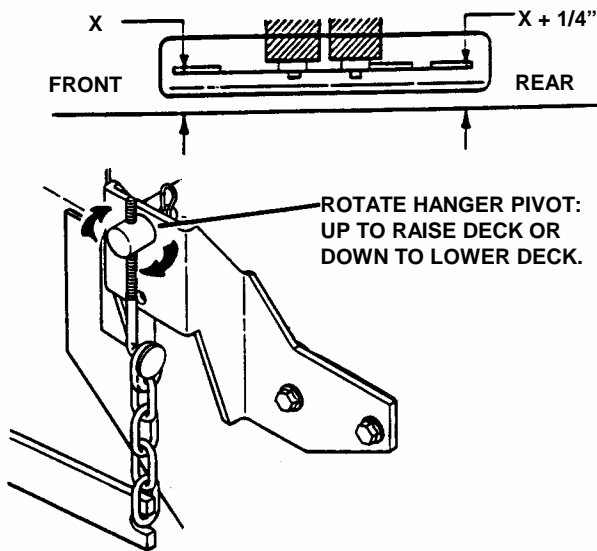

FIGURE 4.8
- Turn each hanger pivot the same number of rotations on the eye-bolt to raise or lower the rear of the deck. See Figure 4.8.